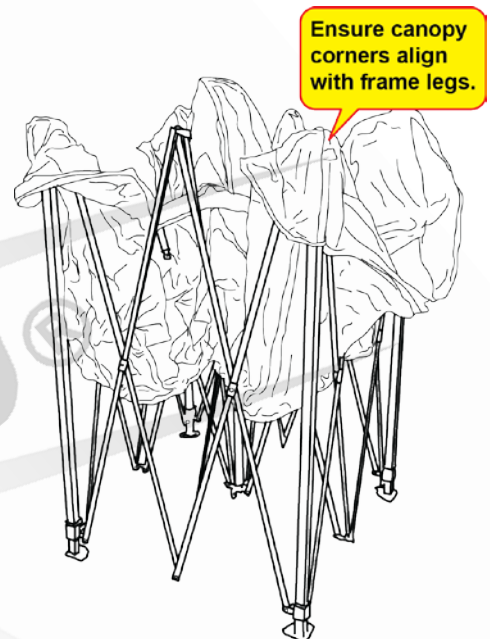

Figure 1 – Unassembled Gazebo
2. Carefully place the gazebo canopy over the frame so that the centre and corners are lined up with the frame as shown in Figure 1.